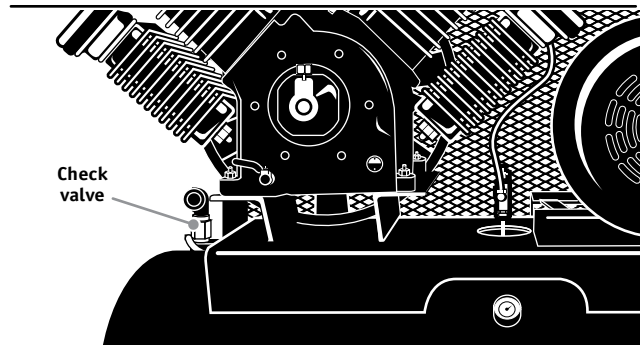

Figure 1: Connect feed port to check valve
1. Mount pump to deck of tank then connect main feed port to check valve in tank. See figure 1.